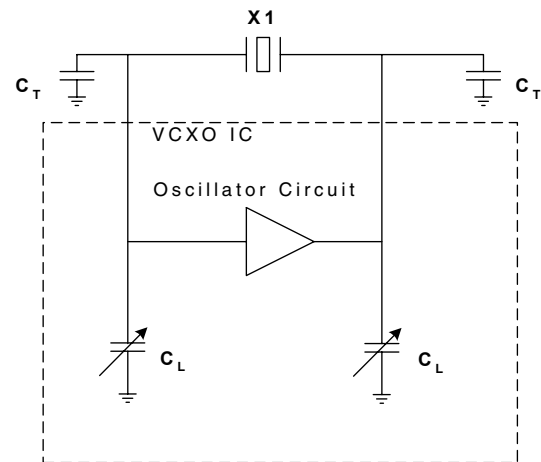
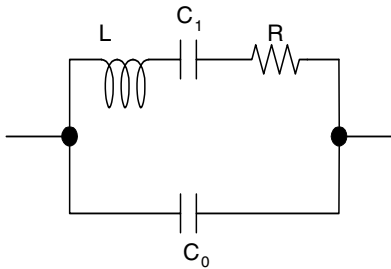

Figure 1 - VCXO Circuit
Figure 2 - Equivalent Circuit of a Crystal
3. Load capacitance. This is the capacitance, specified in picofarads (pF), which the oscillator circuit presents to the crystal for the crystal to resonate on frequency. Load Capacitance is comprised of a combination of the circuits' discrete load capacitance, stray board capacitance, and capacitance internal to the ICS device. Because this includes the stray capacitance of the circuit board, we recommend that pads for small capacitors (CT in figure 1) be provided in your layout to make small adjustments to the total capacitance. Details are given in the Layout Considerations section.
A VCXO circuit operates by changing the value of variable capacitors to ground, or load capacitors (CL in figure 1), which changes the oscillation frequency. Crystals can be specially built to make them more sensitive to this, i.e. more pullable. Figure 2 shows a simplified equivalent circuit of a crystal, which includes C_0 (shunt capacitance), which represents the parasitic capacitance between the leads and between the electrodes, and C_1 (motional capacitance), which, together with L , is an electrical model of the piezoelectric behavior of the crystal.